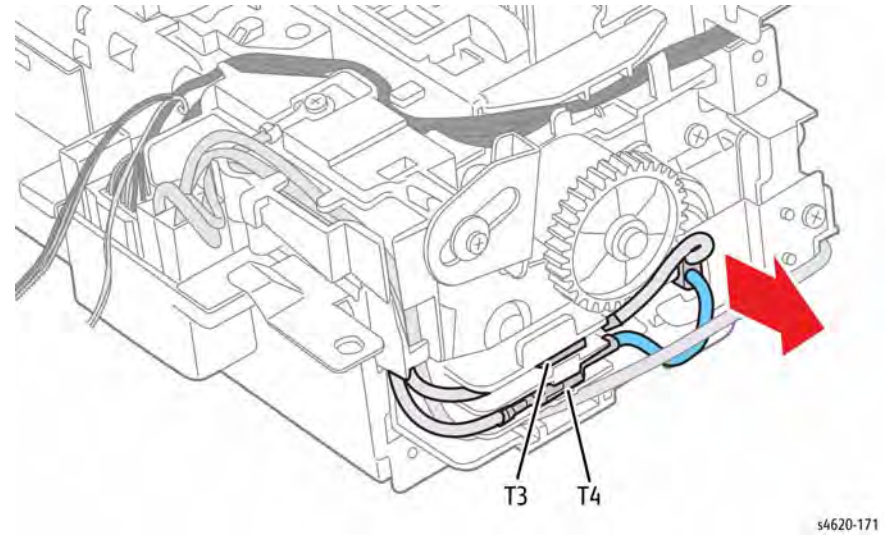

Figure 8 Remove the Heat Lamp
10. Disconnect the Heat Lamp from the 2 terminals (T3, T4) and remove, Figure 8.